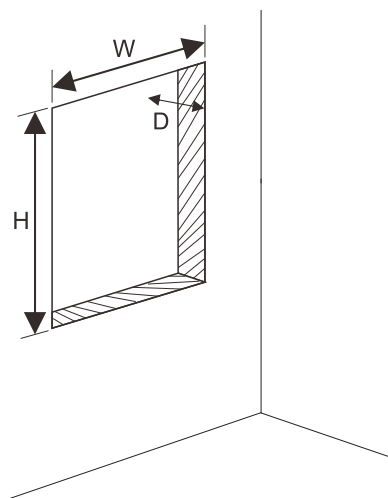

Fig. 15
- 1.8 Open the screw hole in the wall (Fig.15)